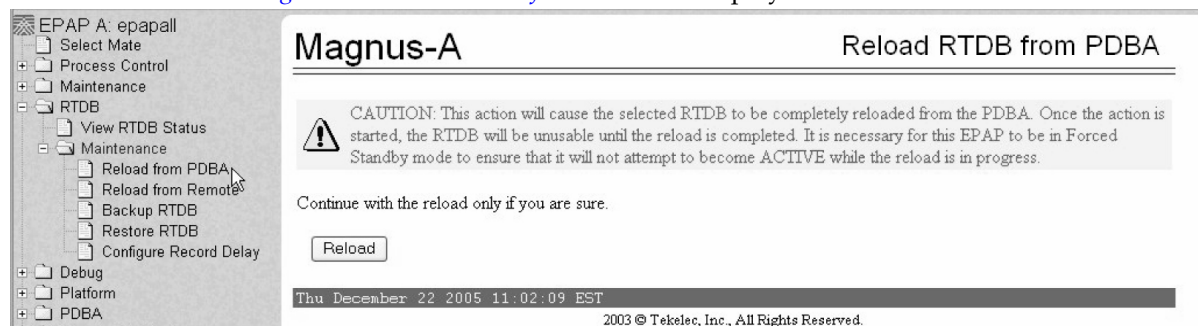

Figure 33: Reload RTDB from PDBA
The screen shown in Figure 33: Reload RTDB from PDBA is displayed.
7. Click the **Reload** button as shown in Figure 33: Reload RTDB from PDBA.